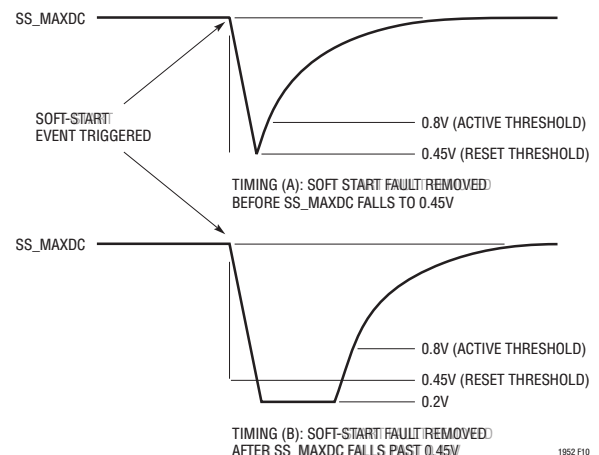

Figure 10. Soft-Start Timing
The LT1952/LT1952-1 have built-in soft-start capability to provide low stress controlled start-up from a list of fault conditions that can occur in the application (see Figure 1 and Figure 10). The LT1952/LT1952-1 provide true PWM soft-start by using the  $SS\_MAXDC$  pin to control soft-start timing. The proportional relationship between  $SS\_MAXDC$  voltage and switch maximum duty cycle clamp allows the  $SS\_MAXDC$  pin to slowly ramp output voltage by ramping the maximum switch duty cycle clamp—until switch duty cycle clamp seamlessly meets the natural duty cycle of the converter. A capacitor  $C_{SS}$  on the  $SS\_MAXDC$  pin and the resistor divider from  $V_{REF}$  used to program
It can be seen in Figure 10 that two types of discharge can occur for the  $SS\_MAXDC$  pin. In timing (A) the fault that caused the soft-start event has been removed before  $SS\_MAXDC$  falls to 0.45V. This means the soft-start latch will be reset when  $SS\_MAXDC$  falls to 0.45V and  $SS\_MAXDC$  will begin charging. In timing (B), the fault that caused the soft-start event is not removed until some time after  $SS\_MAXDC$  has fallen past 0.45V. The  $SS\_MAXDC$  pin continues to discharge to 0.2V and remains low until all faults are removed.